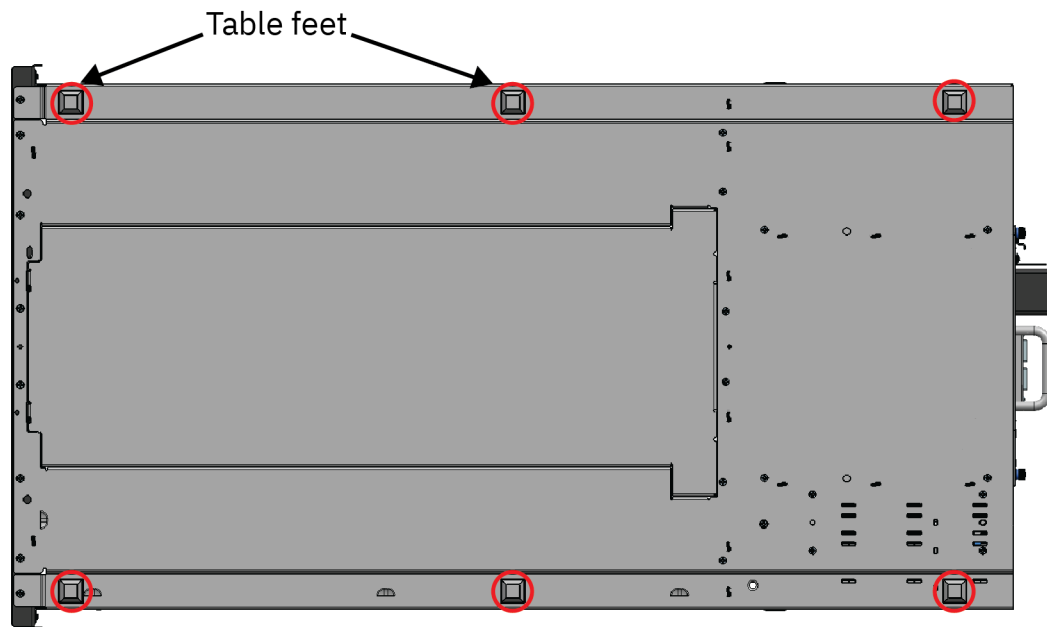

Figure 20. Table feet
4. Add feet to the base of the module. See Figure 20 on page 41.